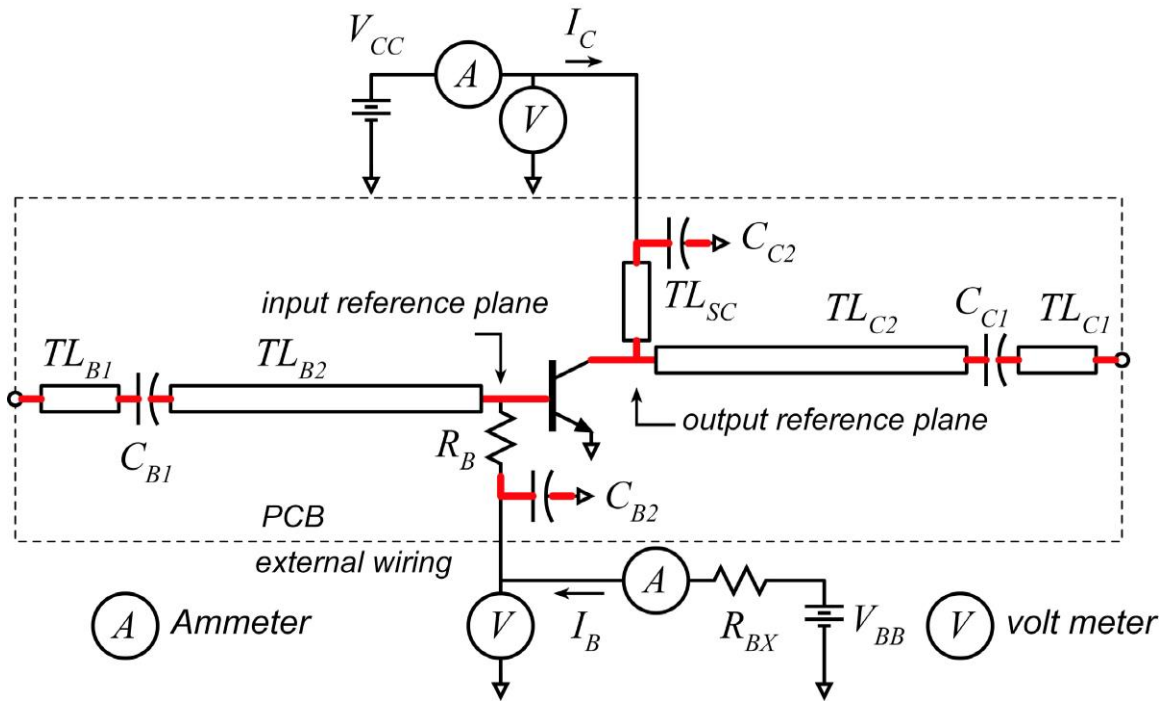
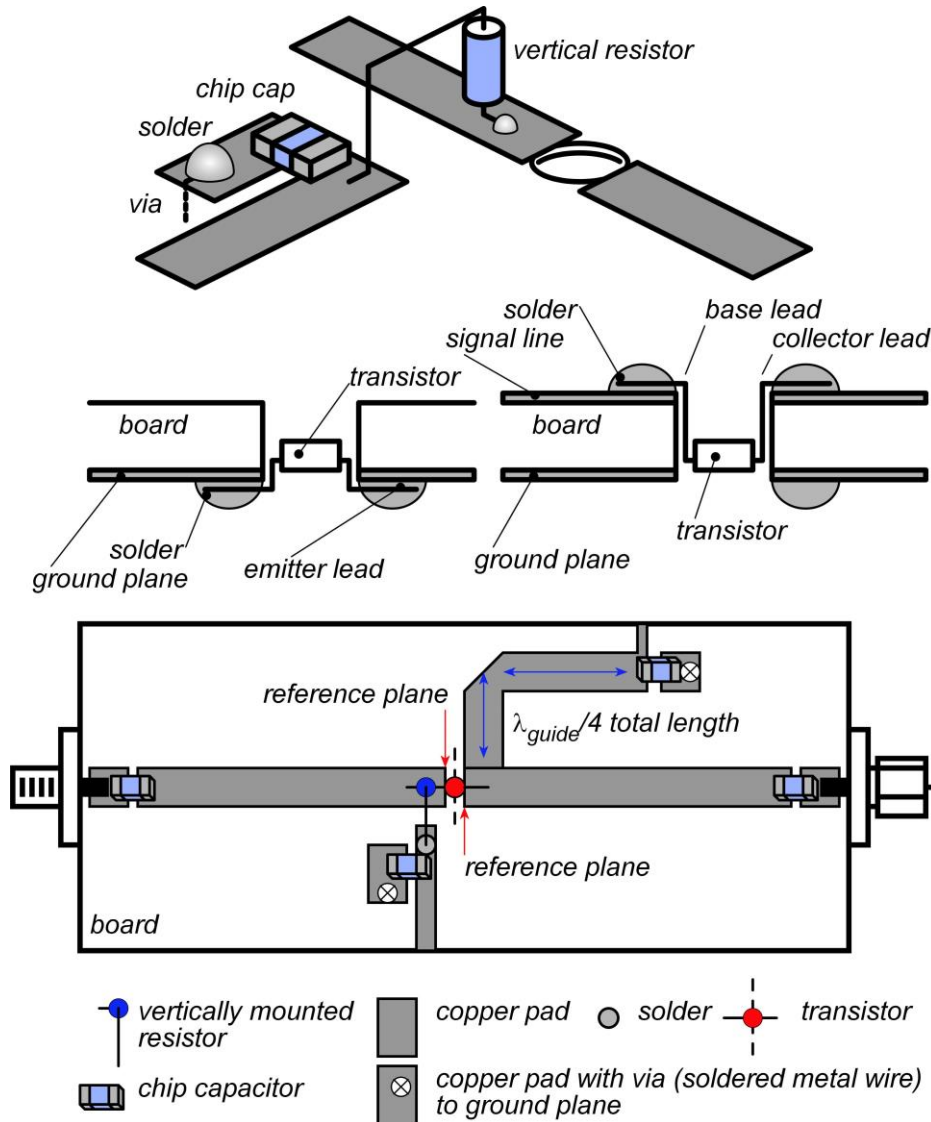

Figure 1: Bipolar transistor bias circuit.
Figure 2: Details of fixture construction. The reference planes for S-parameter measurement are indicated by the red arrows.
Your work on this project should build on the test structure you earlier made in lab project 1b. For your reference, the bias circuit is repeated in Figure 1, and the details of physical construction in Figure 2, both shown below. In lab 1b, you had measured the transistor S-parameters. If these turned out to differ greatly from the data sheet values, and the values in the ADS model, it would be wise to re-build the test structure and re-take the measurements. ***Above all, great care in construction and measurement is needed if your design is to work as simulations predicts.***
- 1) Measure or re-measure the transistor S-parameters using the procedure of lab 1b, and using the fixture of Figure 2. This is repeated as Figure 3a.